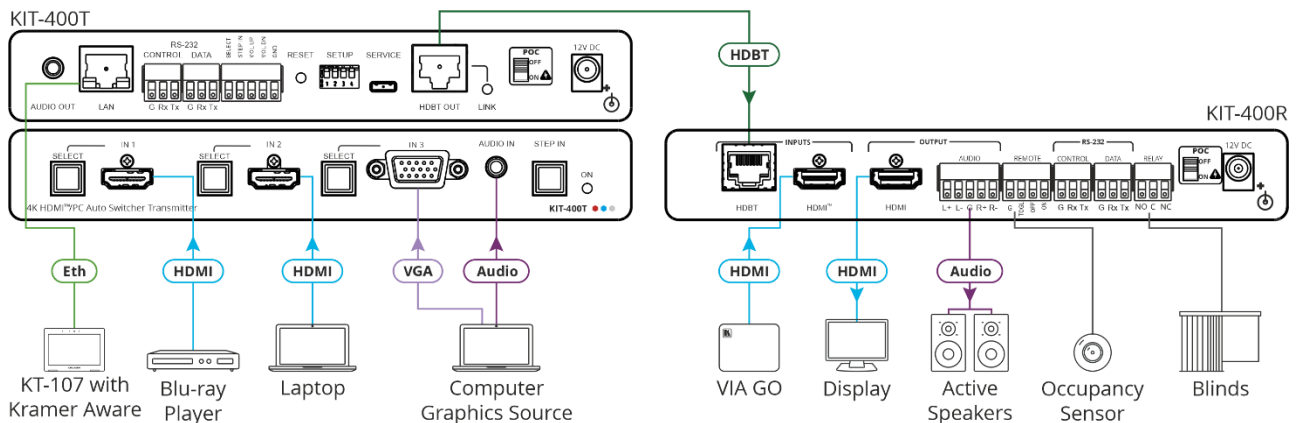

Figure 3: Connecting to the KIT-400
To connect **KIT-400** as illustrated in the example in **Figure 3**:
12. Connect the power adapter to one of the devices (**KIT-400T** or **KIT-400R**) and to the mains electricity (not shown in Figure 3).